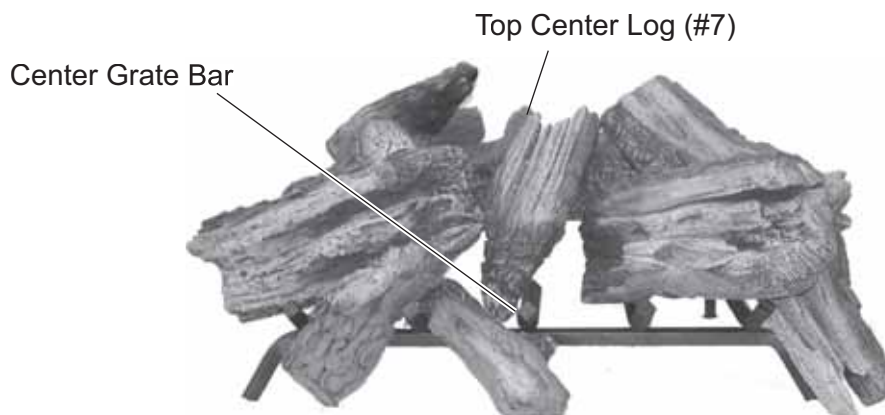

Figure 137 - Placing Top Center Log (#7) on Rear Log
8. Place wide end of Top Center Log #7 on Rear Log #1. Rest narrow end of Top Center Log #7 to the left of center grate bar barely touching the Mid Log #6. *See Figure 137.*